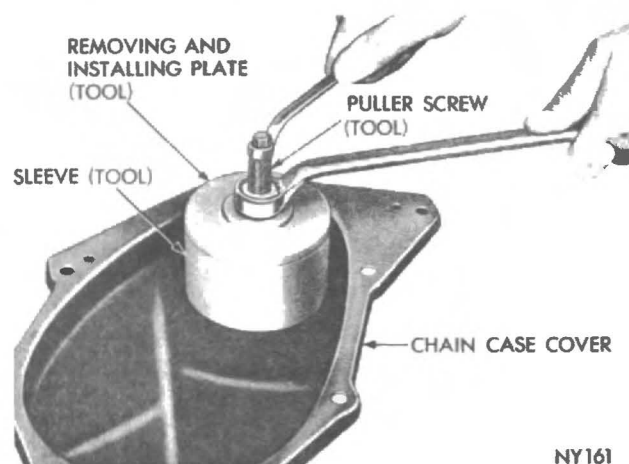

Fig. 22 - Removing oil seal (Tool CA-3506).
(3) Place sleeve over retainer and place removing and installing plate into sleeve.
(4) Place the flat washer and nut on puller screw. Hold the centre screw and tighten lock nut to remove seal (Fig. 22).